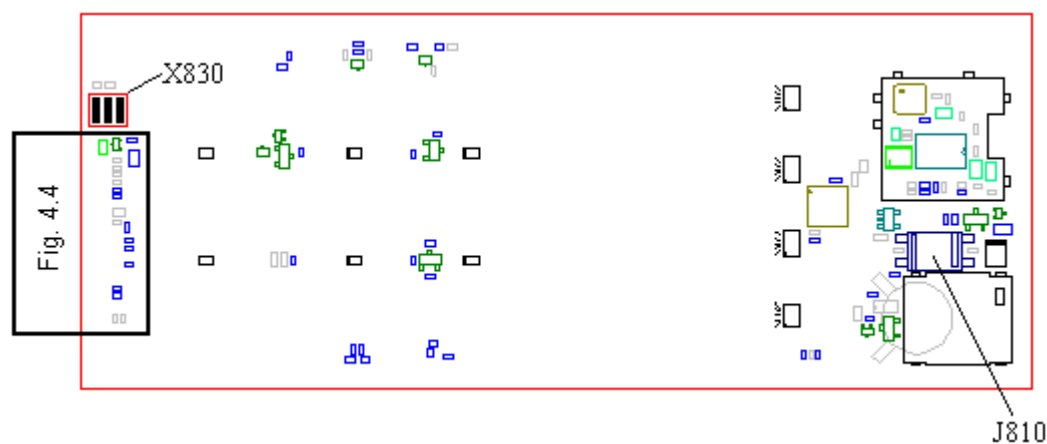
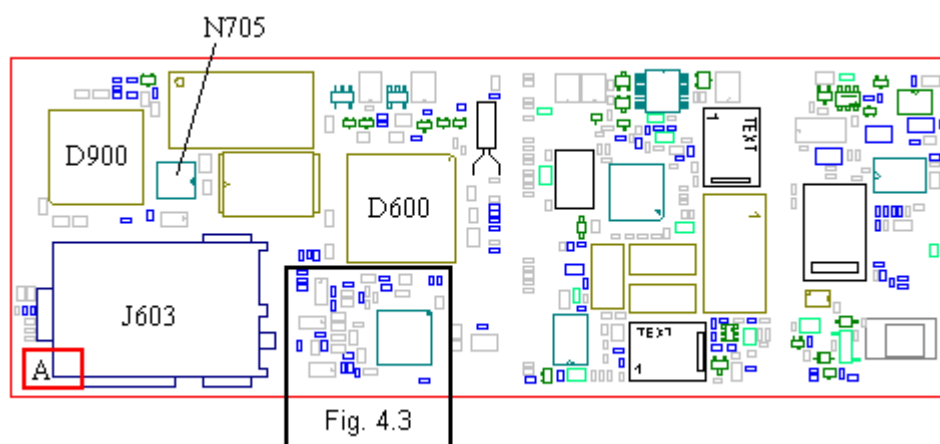
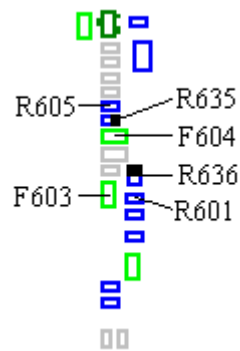
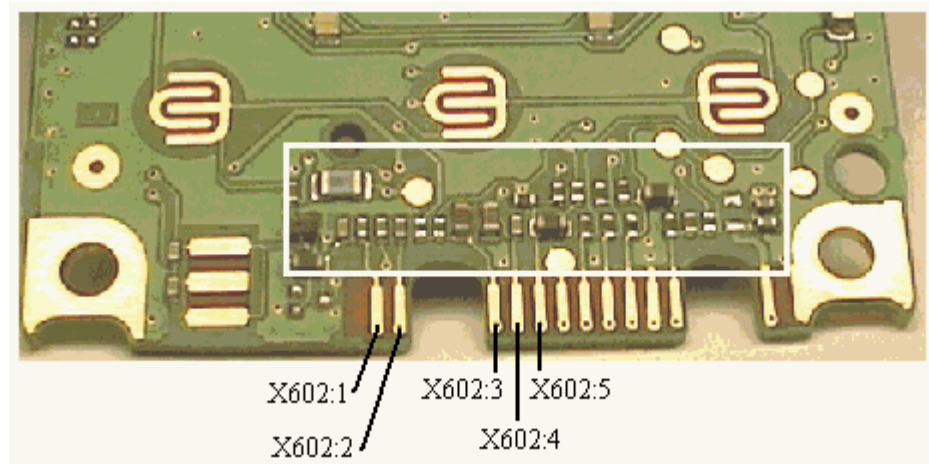

Fig. 4.1
Fig. 4.2
Fig. 4.4
Fig. 4.5
- If the fault remains, make sure the earphone connector (J810, fig. 4.1) is intact and correctly soldered.
Fig. 4.2 shows the component side of the circuit board.
Open the phone and check for liquid damages, especially around X830 (fig. 4.1) and below J603 (marked area A in fig. 4.2).
Make sure there is no dirt or oxide between the components above the system connector pads (fig. 4.4 or marked area in fig. 4.5). Check very thoroughly!
Measure the voltage at both sides of R601 and at D600 pin 70 (~5V, fig. 4.4 and 4.2, you follow the **PHFI** signal).
Measure the voltage at both sides of R605 and at D600 pin 67 (~5V, fig. 4.4 and 4.2, you follow the **EXTAUDI** signal).
- If the voltage is low only at one side of R601 or R605, replace the corresponding resistor (fig. 4.4, both of class A).
- If the voltage is low at both sides of R601 or R605, check the VSIMPAD voltage at the marked sides of R635 and R636 (~5V, fig. 4.4).
* If there is no voltage, check the resistance from the marked side of R635 or R636 to N705 pin 3 (~0 ohms, fig. 4.4 and 4.2).
* If there is VSIMPAD voltage at the marked side of R635 or R636, measure the resistances of them (both are ~22 kohms and in fig. 4.4).
* If it's too low, make sure there's no dirt or oxide between the components in the marked area (fig. 4.5). Clean thoroughly and measure again.
* If the resistance still is too low, remove R601 (class A, fig. 4.4).
* If the resistance increased, replace D600 (class B, fig. 4.2) and mount a new R601.
* If the resistance still is too low, remove R605 (class A, fig. 4.4) and measure again.
* If the resistance increased, replace D600 (class B, fig. 4.2) and mount a new R605.
If all the above measured resistances are correct, but some of the voltages at R601 or R605 are low it's either caused by a slight short circuit due to dirt at the marked area in fig. 4.5, broken F603 or broken F604.
- Measure the voltages at both sides of R601 (~0V, fig. 4.4) and at D600 pin 70 (~0V, fig. 4.2).
- * If the voltages aren't correct, check the soldering of D600 pin 70 (fig. 4.2).
- * If the resistance is correct, replace D600 (class B, fig. 4.2).
Open the phone and check for liquid damages, especially around the system connector (X602) pads 1, 2 and 4 (fig. 4.5).
Measure the resistance from the marked side of C813 to system connector (X602) pad 1 (~0 ohms, fig. 4.5)
Open the phone and check for liquid damages, especially within the marked area above the system connector pads in fig. 4.5.
Measure the resistance from X602 pad 3 to the unmarked side of R635 (~0 ohms, fig. 4.4 and 4.5).
Measure the resistance from X602 pad 5 to the unmarked side of R636 (~0 ohms, fig. 4.4 and 4.5).
Measure the resistances of R601 and R605 (both are 1 kohms, of class A and in fig. 4.4).